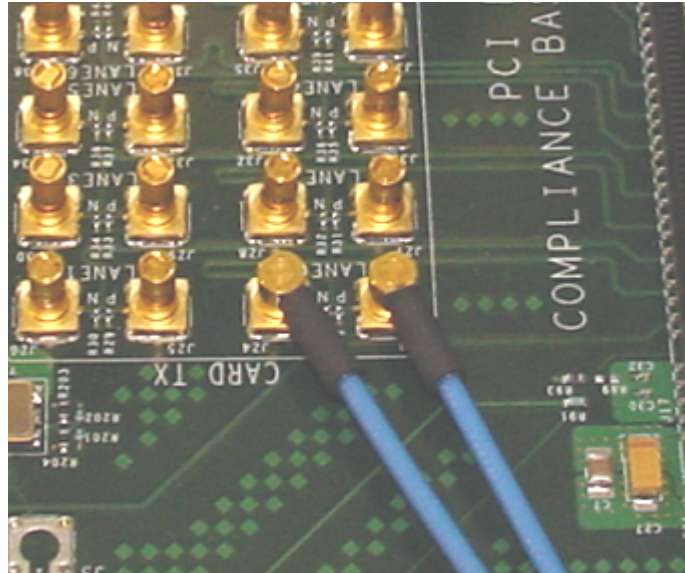

Figure 13 Compliance Base Board (CBB) 2.0 SMP Probing Option
- a Digital Storage Oscilloscope channel 1 to the D+ (where Lane 1 is under test in this example shown in Figure 13 above).
- b Digital Storage Oscilloscope channel 3 to the D- (where Lane 1 is under test in this example shown in Figure 13 above).